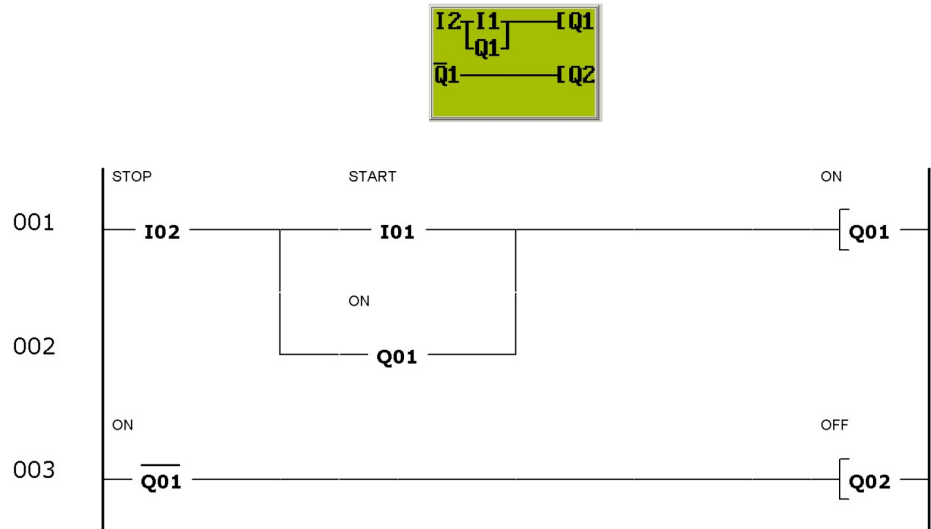

Figure 1-14. Latching circuit ladder program and equivalent circuit diagram display.
This last circuit can be translated into an equivalent ladder program, as Figure 1-14 shows. When input I1 (START) is energized, the Q1 contactor output (green pilot light) switches to logic 1 and the green pilot light illuminates. The Q1 output then keeps itself actuated through its corresponding make contact. When input I2 (STOP) is pressed, the rung de-energizes. The red pilot light (Q2) illuminates when the green pilot light (Q1) does not.
- 9. Enter the program shown in Figure 1-14.